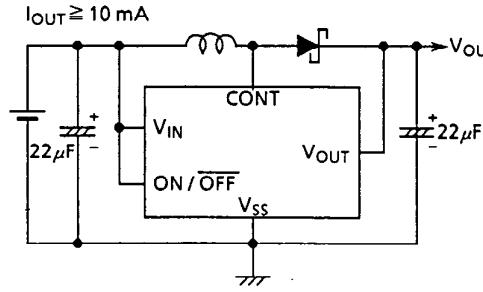
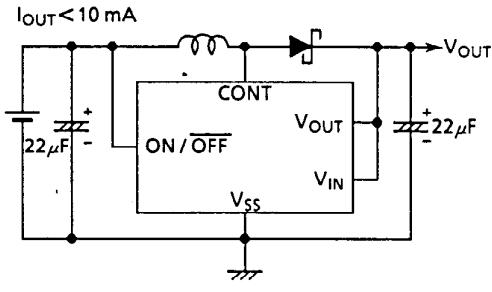

Figure 12
Figure 13
The difference between Figures 12 and 13 is a V_{IN} connection. The connection to be used depends on the purpose. The connection shown in Figure 12 is suitable for high output current (≥ 10 mA). The connection shown in Figure 13 is suitable for low output current ($I_{OUT} < 10$ mA) because minimum operating supply voltages is reduced. (See the supply voltage-output voltage characteristics on the next page. Use RCH855-47 μH manufactured by Sumida Electric for the coils and D1NS4 for the external diode.)
$V_{IN} \neq V_{OUT}$ (in the circuit shown in Figure 12)
$V_{IN} = V_{OUT}$ (in the circuit shown in Figure 13)
- Do not apply a supply voltage of less than 0.9 V at V_{IN} in the standard circuit shown in Figure 12. If a voltage of less than that is applied, the input current may increase rapidly. The input current may increase rapidly in the application of a low supply voltage and a low load current ($I_{OUT} = 20 \mu\text{A}$) when the S-8436 series is used.